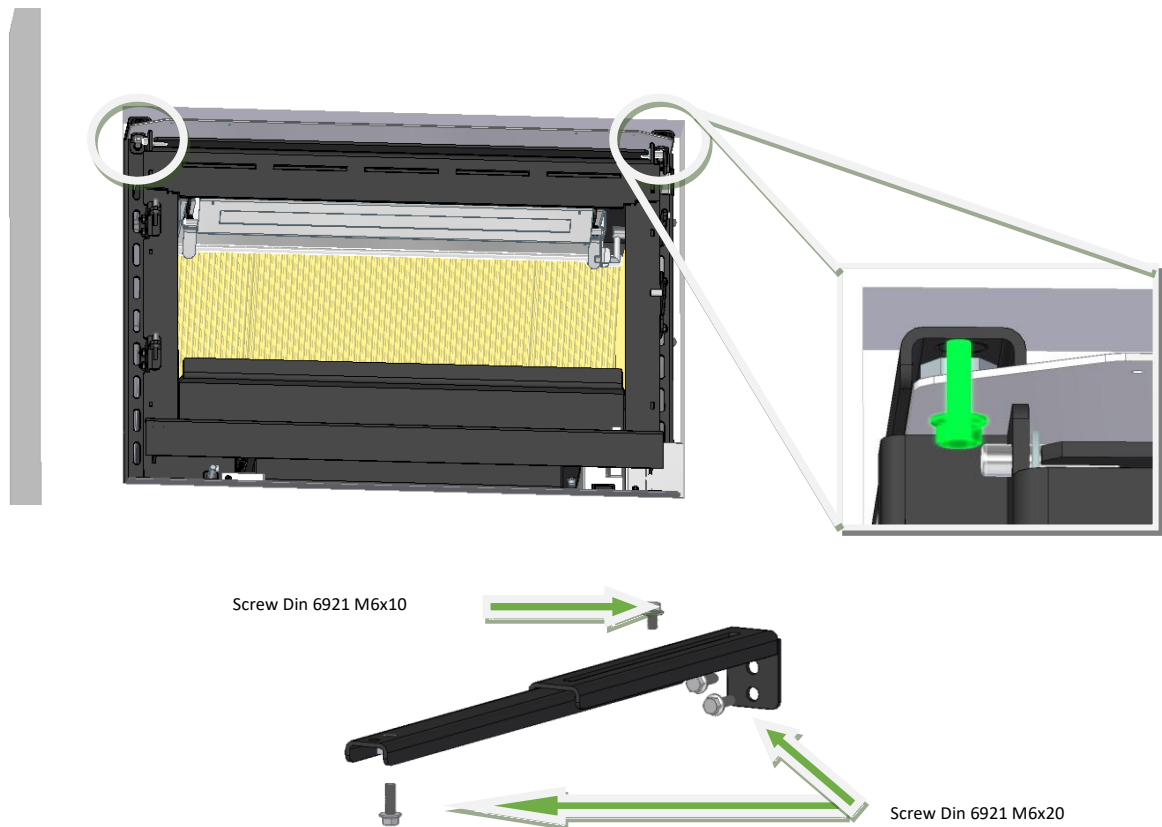

Figure 16 - Fixing the equipment to the top mounting brackets using hexagon socket screws Din 6921 M6x20 and M6x10
13. You should then fix the equipment to the upper supports as shown in Figure 16.